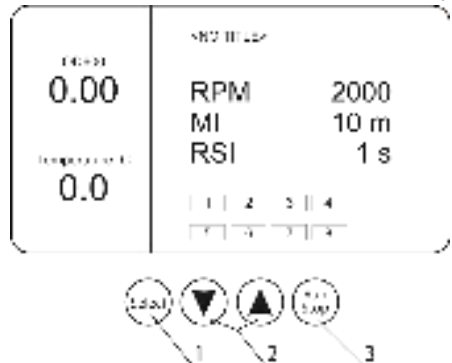

Figure 2. Control panel
6.5.1 Press the **Select** key (fig. 2/1) to activate the possibility to change to an individual channel or to a parameter (the channel box or parameter will be highlighted and blinking). Selected channel box will remain blinking all the time while the device is on. Indications of colors of boxes are the following:
6.5.2 Use ▲ and ▼ keys (fig. 2/2) to change to an individual channel or set the necessary value (the box will be highlighted and blinking).
6.5.4 Press the **Run Stop** key (fig. 2/3) to start and stop operation.